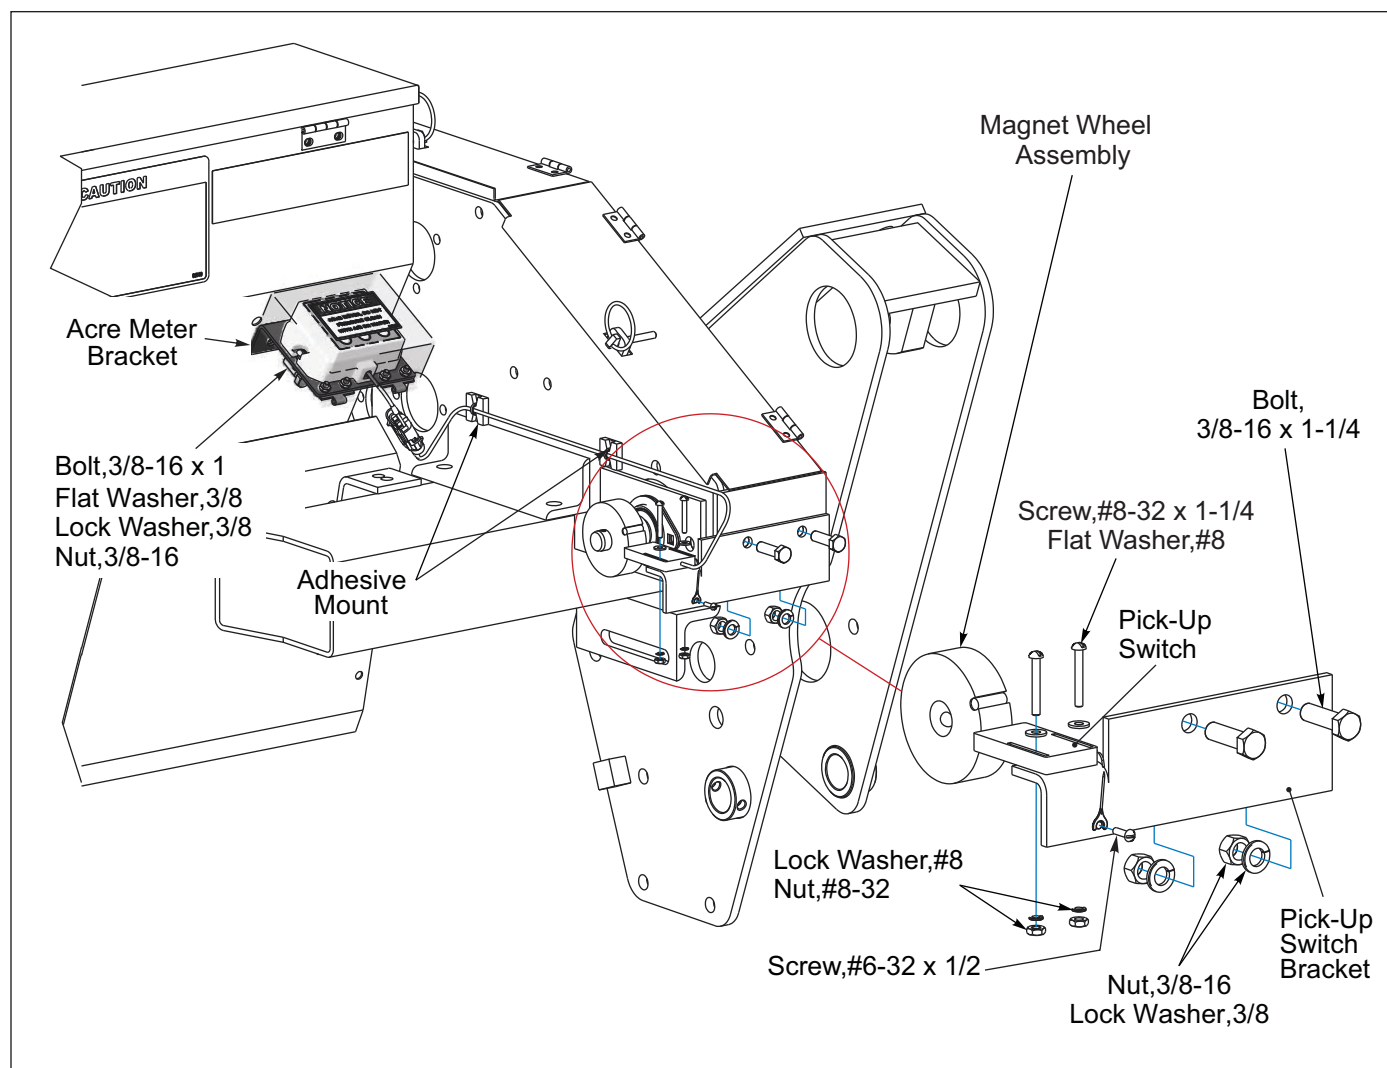

Figure 2-31: Electronic Acre Meter
2. Attach the Acre Meter Bracket to the Seed Box with 3/8-16 x 1 Bolts, Flat Washers, Lock Washers and Nuts. **See Figure 2-31.**